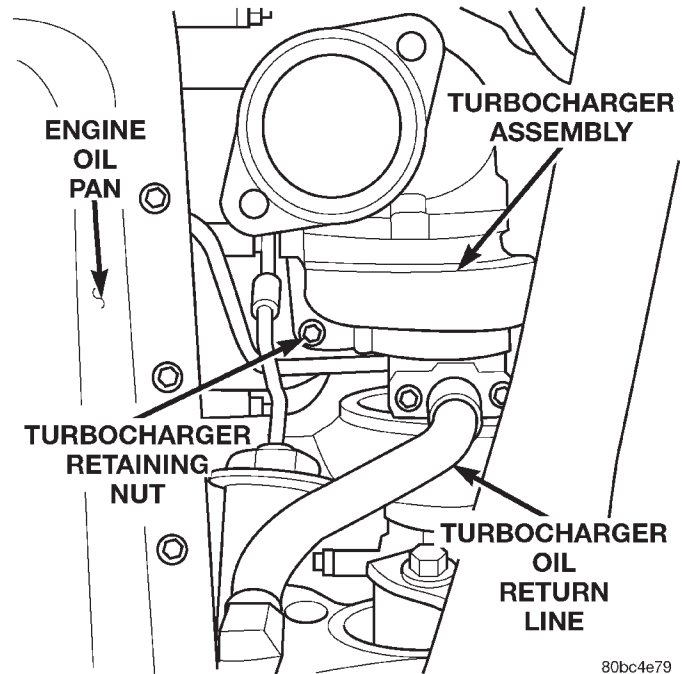

Fig. 58 Oil Return Line
- (15) Disconnect the oil feed line from turbocharger.
- (16) Disconnect the oil return line from turbocharger (Fig. 58).